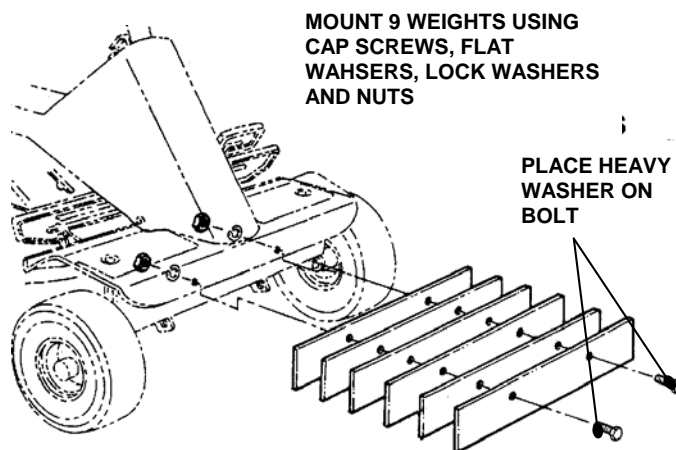

FIGURE 11
IMPORTANT: Some model Riders may require the two mounting holes to be drilled in the front frame. Refer to Step 12 for drilling instructions. The mounting holes in other models may be covered by the SNAPPER label. Attach the nine (9) weights to the front frame using 3/8-16 x 2-1/4" hex cap screws, flat washers, 3/8" split lock washers and 3/8-16 hex nuts. Tighten nuts and bolts securely. See Figure 11.